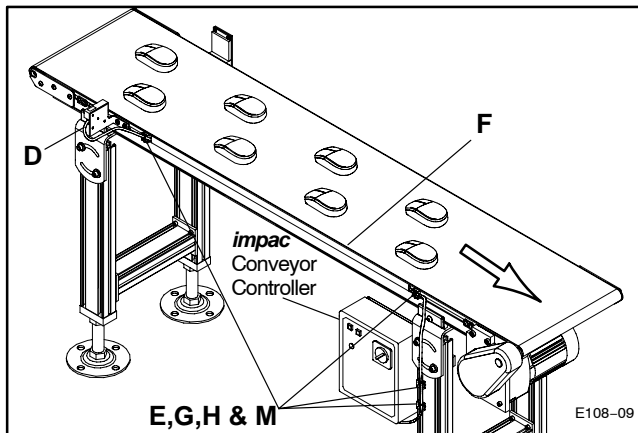

Figure 9: Photo-Eye Cable Routing to *impac* Conveyor Controller
- e. Figure 9 shows a typical wire routing of a Photo-Eye connection to an *impac* Conveyor Controller using the conveyor's T-slot with both T-slot Cover Strips and Zip Ties (H).